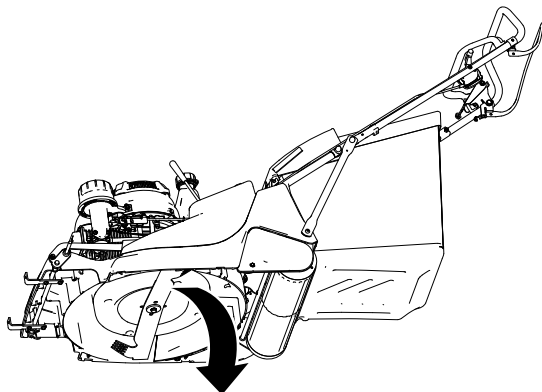

Figure 9
4. Carefully lower the machine (Figure 9).